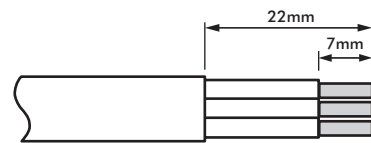

Fig 6. Wire Striping Details
- Prepare the cable and bare the wire ends as shown in fig. 6, wire stripping details.